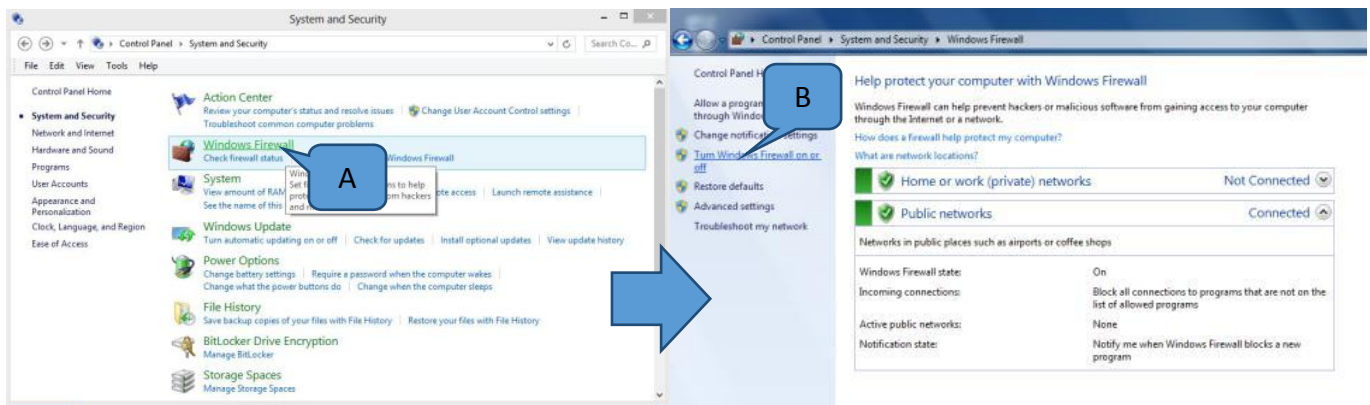

Figure 8 Window firewall
9. Go to “Window Firewall” and select “Turn Window Firewall on or off” at left panel as Figure 8.